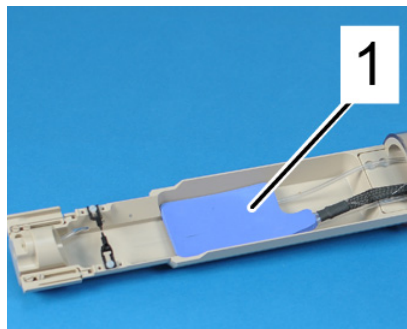

Figure 3.2: Animal Bed with heating cover (1).
A heating cover (Figure 3.2 (1)) to stabilize the body temperature of the rat during investigation is provided with the Animal Bed. The heating cover has to be connected to a conventional water heating system.